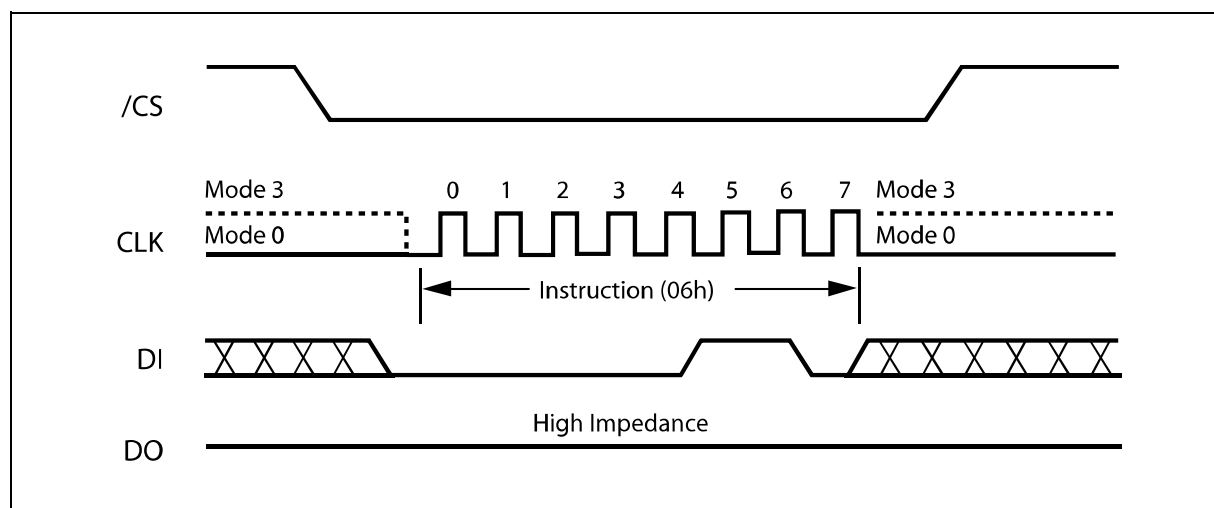

Figure 4. Write Enable Instruction Sequence Diagram
Instructions vary in length from a single byte to several bytes and may be followed by address bytes, data bytes, dummy bytes (don't care), and in some cases, a combination. Instructions are completed with the rising edge of edge /CS. Clock relative timing diagrams for each instruction are included in figures 4 through 30. All read instructions can be completed after any clocked bit. However, all instructions that Write, Program or Erase must complete on a byte boundary (/CS driven high after a full 8-bits have been clocked) otherwise the instruction will be terminated. This feature further protects the device from inadvertent writes. Additionally, while the memory is being programmed or erased, or when the Status Register is being written, all instructions except for Read Status Register will be ignored until the program or erase cycle has completed.
The Write Enable instruction (Figure 4) sets the Write Enable Latch (WEL) bit in the Status Register to a 1. The WEL bit must be set prior to every Page Program, Sector Erase, Block Erase, Chip Erase and Write Status Register instruction. The Write Enable instruction is entered by driving /CS low, shifting the instruction code "06h" into the Data Input (DI) pin on the rising edge of CLK, and then driving /CS high.